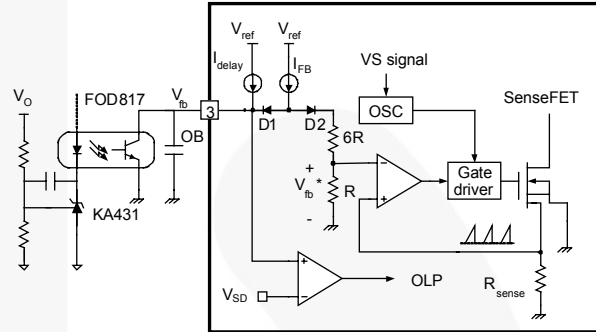

Figure 14. Valley Switching Pulse-Width Modulation (VS-PWM) Circuit
2. Feedback Control: This device employs current-mode control, as shown in Figure 14. An opto-coupler (such as the FOD817) and shunt regulator (such as the KA431) are typically used to implement the feedback network. Comparing the feedback voltage with the voltage across the R_{sense} resistor makes it possible to control the switching duty cycle. When the reference pin voltage of the shunt regulator exceeds the internal reference voltage of 2.5V, the opto-coupler LED current increases, pulling down the feedback voltage and reducing the drain current. This typically occurs when the input voltage is increased or the output load is decreased.
2.1 Pulse-by-Pulse Current Limit: Because current-mode control is employed, the peak current through the SenseFET is limited by the inverting input of PWM comparator (V_{FB}^*), as shown in Figure 14. Assuming that the 225 μ A current source flows only through the internal resistor ($6R + R = 12.6k\Omega$), the cathode voltage of diode D2 is about 2.8V. Since D1 is blocked when the feedback voltage (V_{FB}) exceeds 2.8V, the maximum voltage of the cathode of D2 is clamped at this voltage, clamping V_{FB}^* . Therefore, the peak value of the current through the SenseFET is limited.